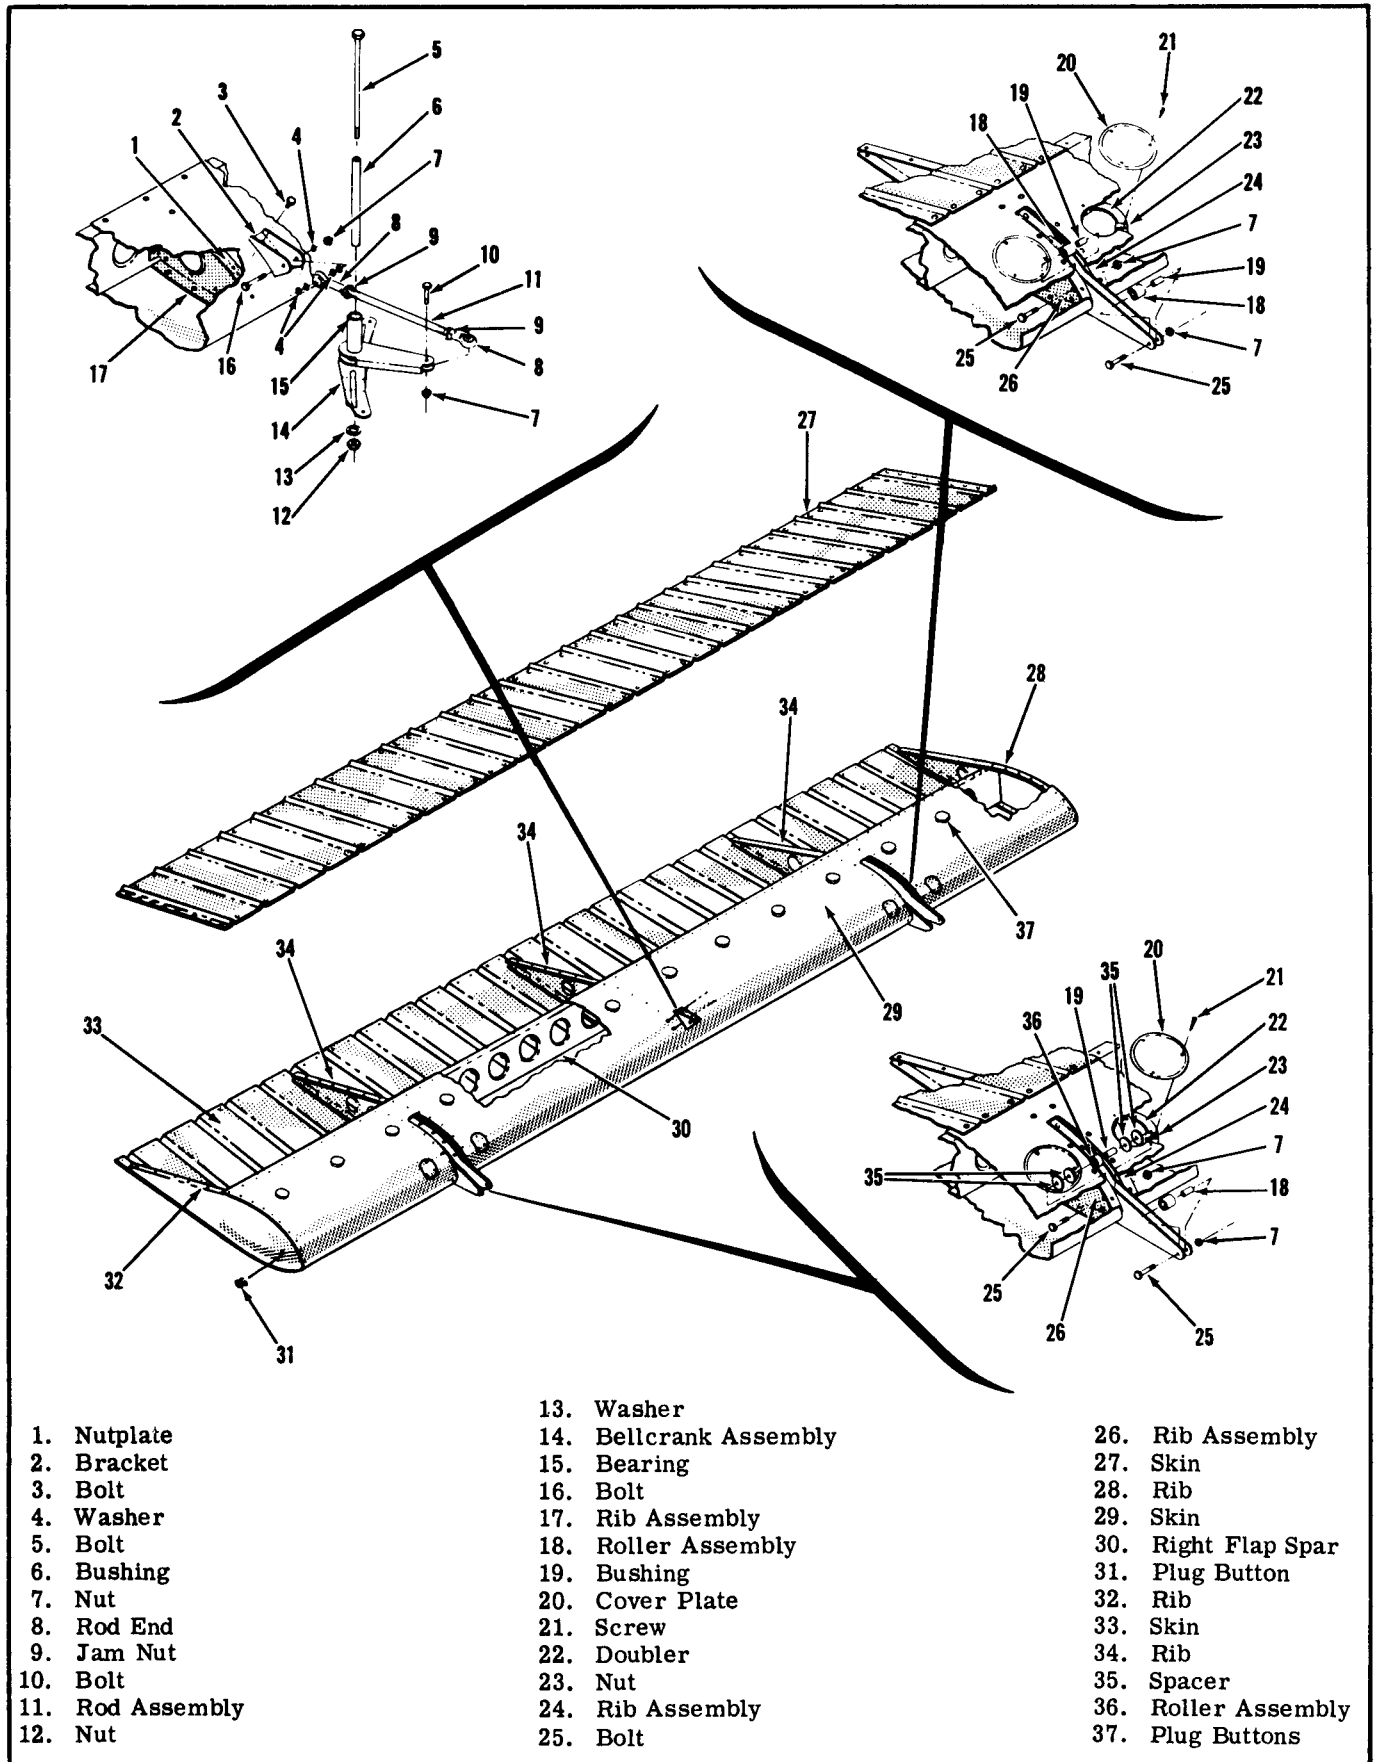

Figure 7-3. Flap and Flap Bellcrank Installation
- c. Remove nuts and bolts through bushings (40) and (42). Work lever assembly free of tunnel structure.
**7-11. REMOVAL OF FLAP BELLCRANKS.** (See figure 7-3.)
(See figure 7-3.)
**7-14. REMOVAL OF FLAP.** (See figure 7-3.)
- b. Disconnect push-pull rod (11) from the flap by removing nut, washer, and bolt.
- c. Remove nut (7) and bolt (25) at each flap track,
7-16. INSTALLATION OF FLAP. (See figure 7-3.)
- a. The model 150 has 11 plug buttons in each flap. All other models have 12. The plug buttons are installed in the top of the flap (see figure 7-3) 7/8" forward of the edge of the corrugated skin. All dimensions given are to hole centers.